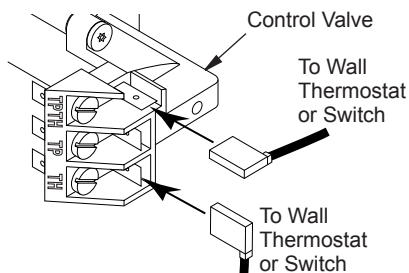

Figure 22 - Connecting Wire Terminals
2. Connect one terminal of 25 ft. wire to the "TH" terminal on the control valve. Connect the other terminal to the "THTP" terminal on the control valve. See Figure 22.
2. Connect one terminal of 25 ft. wire to the "TH" terminal on the control valve. Connect other terminal to the "THTP" terminal on control valve. See Figure 22.